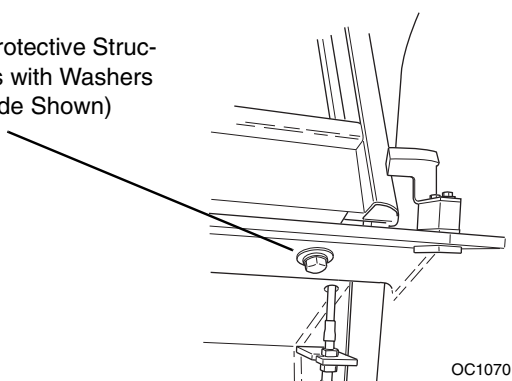

Figure 4-41 Operator's Protective Structure Retaining Bolts
7. At the rear corners of the Operator's Protective Structure loosen the two bolts and washers (Fig. 4-41) that secure it to the frame. The bolts are retained and will not come completely out of the frame.